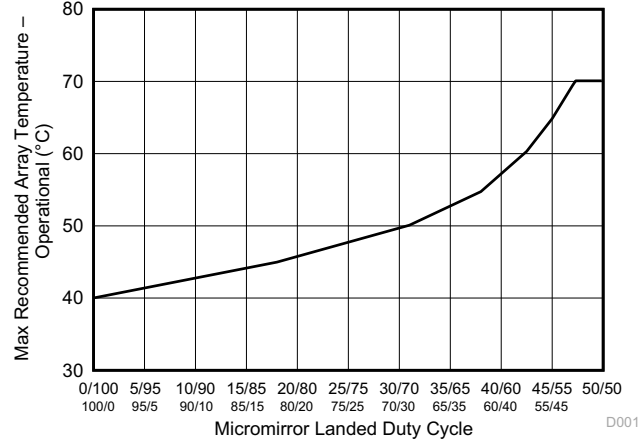

图 5-1. Maximum Recommended Array Temperature - Derating Curve
- (12) Per 图 5-1, the maximum operational array temperature should be derated based on the micromirror landed duty cycle that the DMD experiences in the end application. Refer to 节 6.8 for a definition of micromirror landed duty cycle.
- (13) Long-term is defined as the usable life of the device.
- (14) Short-term is the total cumulative time over the useful life of the device.
- (15) The maximum marginal ray angle of the incoming illumination light at any point in the micromirror array, including at the pond of micromirrors (POM), should not exceed 55 degrees from the normal to the device array plane. The device window aperture has not necessarily been designed to allow incoming light at higher maximum angles to pass to the micromirrors, and the device performance has not been tested nor qualified at angles exceeding this. Illumination light exceeding this angle outside the micromirror array (including POM) will contribute to thermal limitations described in this document and may negatively affect lifetime.